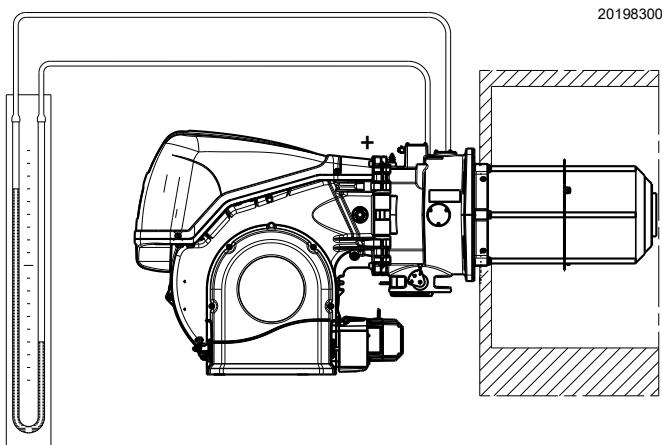

Fig. 29
- Fit a U-type pressure gauge or a differential pressure gauge (Fig. 29), with socket (+) on the gas pressure of the pipe coupling and (-) in the combustion chamber. The manometer readings are used to calculate MAX burner output using Fig. 23 and Fig. 24 on page 26.